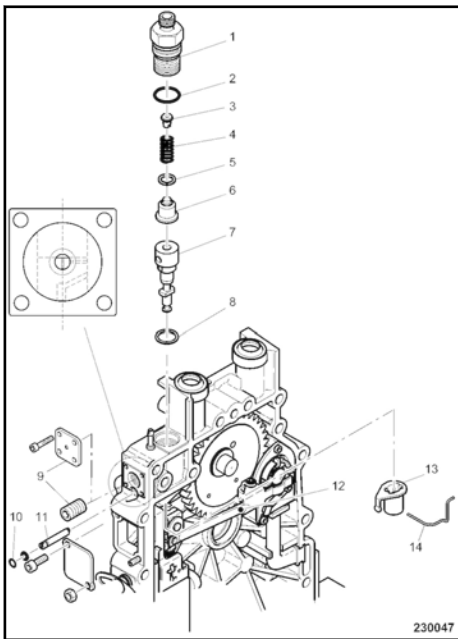

Fig. 96
Unscrew the pressure valve holder (1) ↪ Fig. 96 with O-ring (2).
Remove shim (8) ↪ Fig. 96.
The control bushing (13) ↪ Fig. 96 is located by the bracket (14) and does not need to be removed.